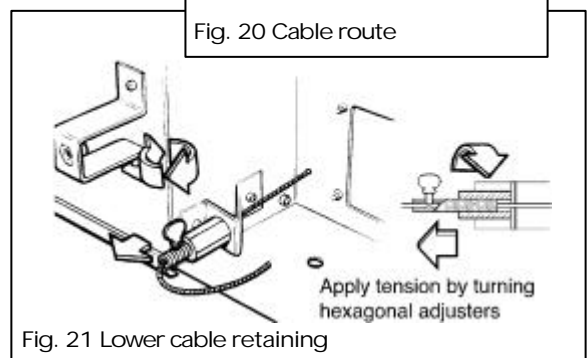

Fig. 21 Lower cable retaining
7.2.7 Fit a cable retainer over the bottom end of each cable (see figure 21).
7.2.8 Pull each cable taut. Push the cable retainers hard up against the "V" brackets. Tighten the screws in the retainers so that they clamp the cables in position. Apply tension to the cables by turning the hexagonal adjusters by hand (see figure 21).